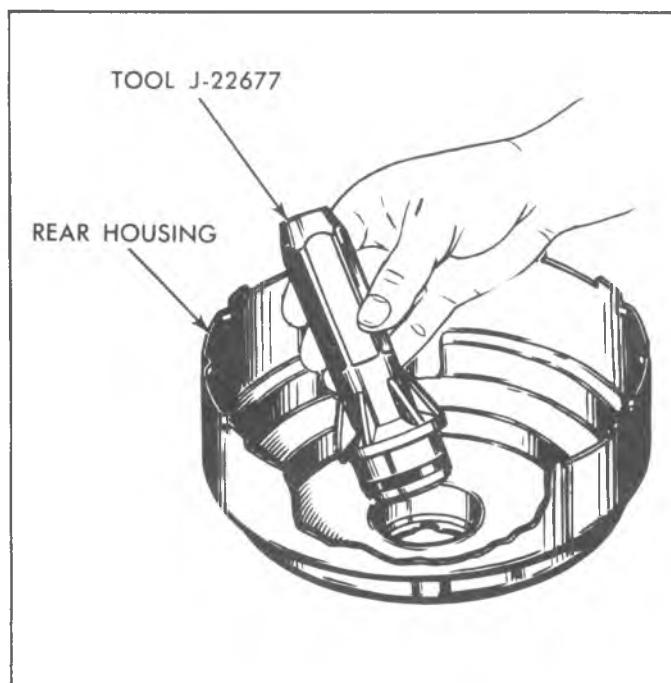

Fig. 7D--Installing Rear Housing Seal with Installer J-22677
1. If the rear housing seal was removed, press the new seal into this cavity in the rear housing using Tool J-22677 (fig. 7D). The flat rubber surface of the seal should be 5/16" below the flat, inside surface of the rear housing.